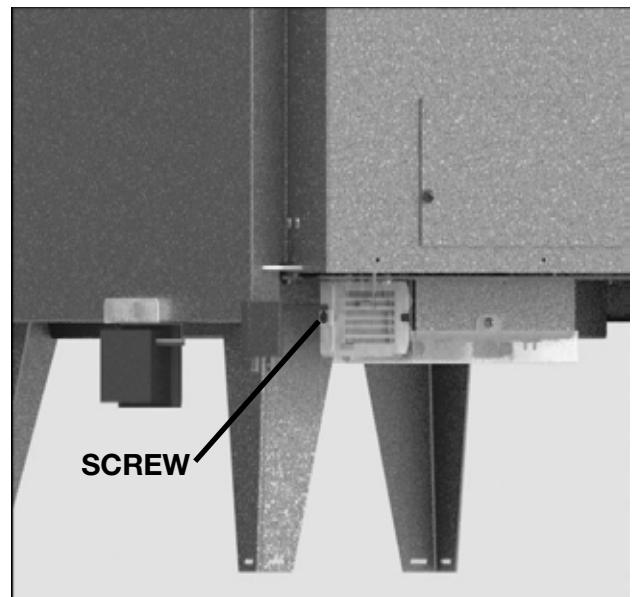

Figure 16: Control Board cover
2. Remove the Control Board Cover from the Control Board Assembly located to the left of the Motor Control Assemblies by undoing the single screw on the left side of the Control Board Assembly. Figure 16
1. Remove the Control Board Cover from the Control Board Assembly by undoing the single screw on the left side of the Control Board Assembly. Figure 16
4. Remove the Control Board Cover from the Control Board Assembly by undoing the single screw on the left side of the Control Board Assembly. See "Figure 16" on page 24 (The Control Board Assembly is located to the left of the Motor Control Assembly, underneath the unit at the back.)
4. Remove the Control Board Cover from the Control Board Assembly by undoing the single screw on the left side of the Control Board Assembly. (The Control Board Assembly is located to the left of the Motor Control Assembly, underneath the unit at the back.) See "Figure 16" on page 24